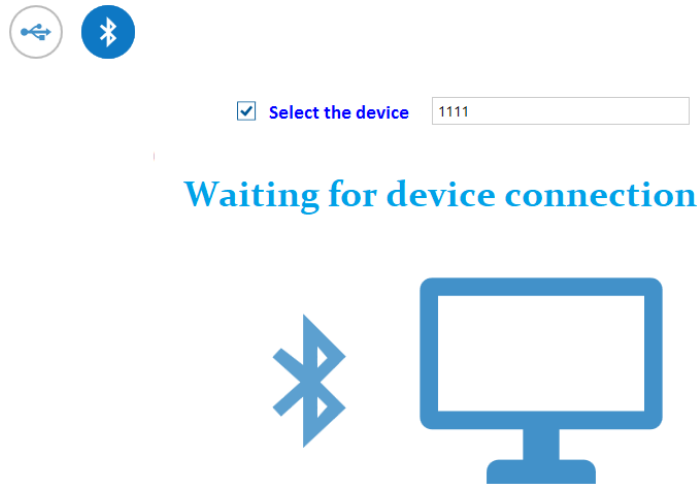

Figure 5 - ADM Configurator in device connection standby mode
- 5) If there are several active trackers ADM007 within the reach of the Bluetooth adapter of the personal computer, select the "Select device" flag and enter the last 4 digits of IMEI in accordance with Figure 5. If there is only one active tracker ADM007 within the reach of the Bluetooth adapter of the personal computer, you may remove the "Select device" flag. In this case, a random tracker will be connected from all detected;